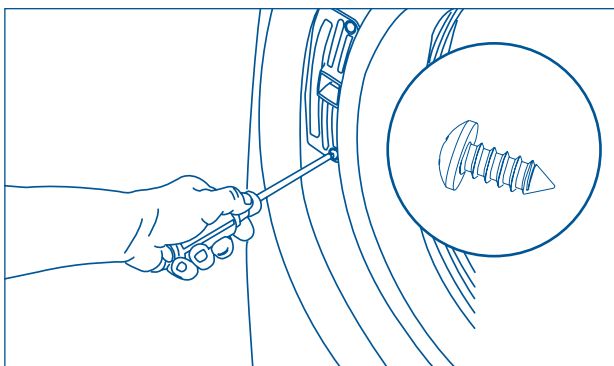

Figure 2-29.
4. Secure the lock with 2 short, course-thread, panhead screws. (See Figure 2-29)